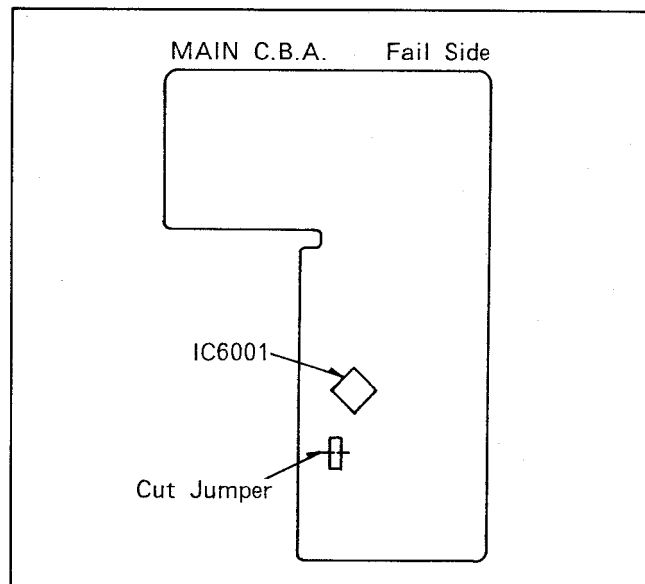
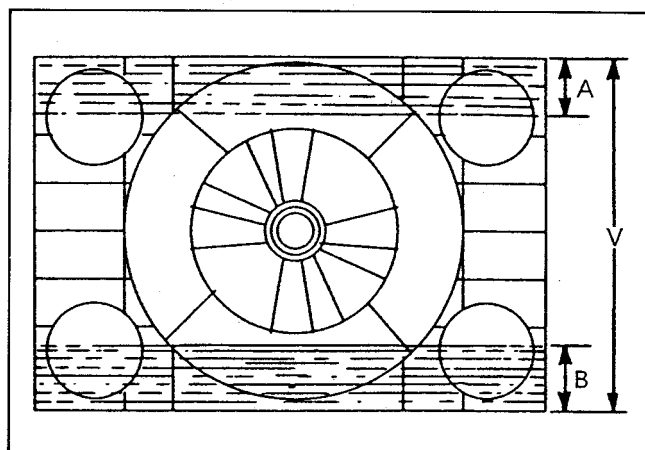

Fig. E4
Fig. E5
1. Connect a cut jumper wire as shown in Fig.E4.
2. Record the colour bar in SP(LP) mode for a few minutes and playback the just recorded portion.
4. Adjust VR2011(SP)(VR2006(LP)) until noise bar on the monitor screen is minimized. (Detail specifications are shown in Fig.E5)
4. Adjust VR2019(SP)(VR2018(LP)) until noise bar on the monitor screen is minimized. (Detail specifications are shown in Fig.E5)